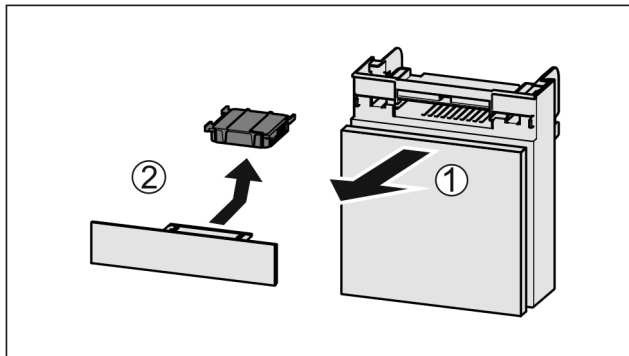

Fig. 52
- ▶ Pull out the compartment Fig. 52 (1).
- ▶ Remove the carbon filter Fig. 52 (2).